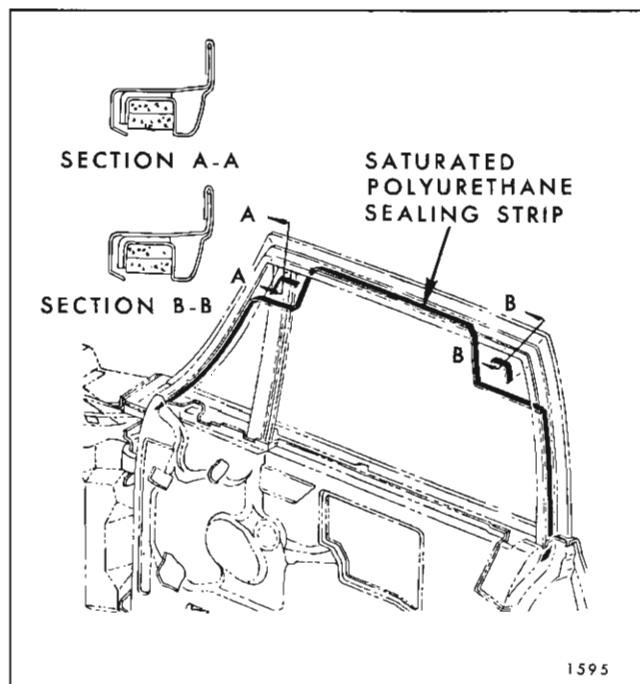

Fig. 1D45—Front Door Window Glass Run Channel Sealing
6. To install, reverse removal procedure. Prior to installation inspect run channel clips and saturated polyurthane foam sealing strips in door upper frame (Fig. 1D45). Reform distorted clips to insure adequate retention when installed. Replace damaged